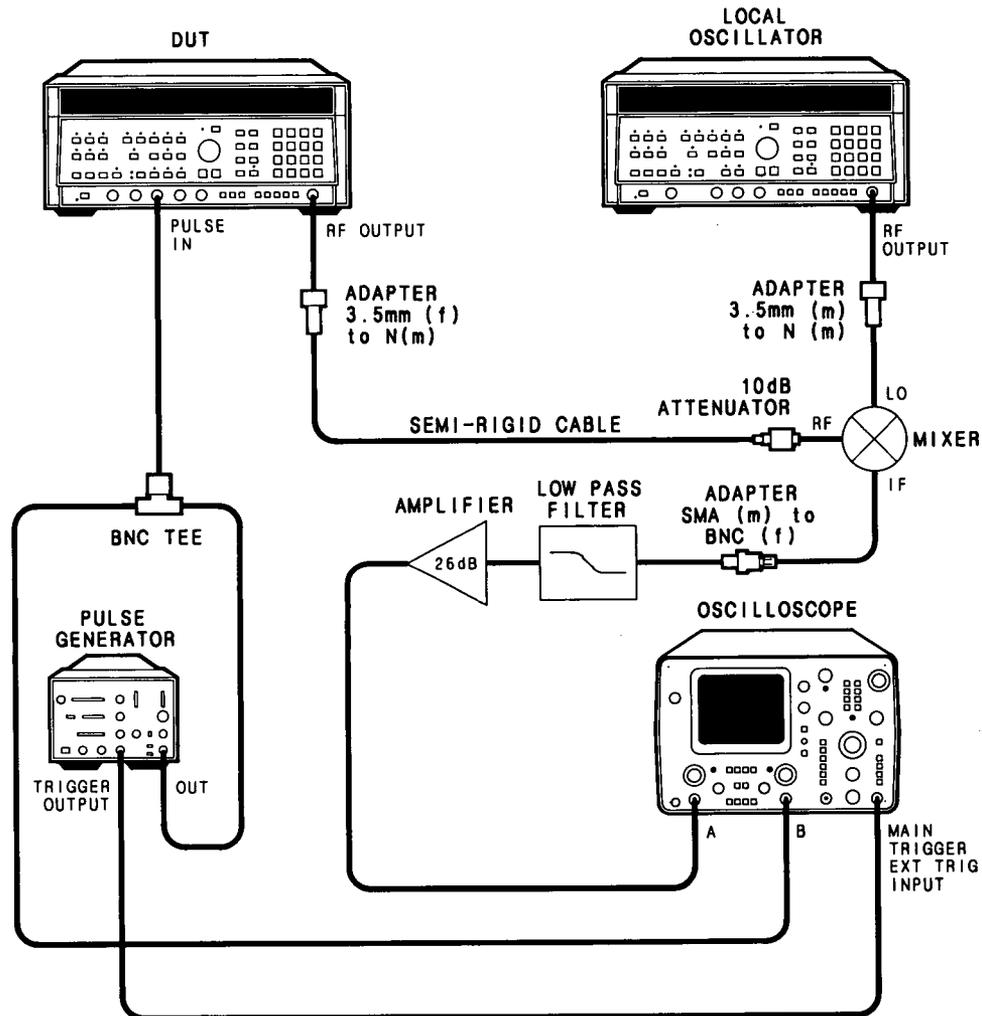

Figure 4-12. Pulse Modulation Rise and Fall Time Test Setup
1. Connect equipment as shown in Figure 4-12. Connect the mixer directly to the local oscillator RF output to obtain maximum LO drive to the mixer. Connect the BNC tee directly to the DUT's PULSE IN connector. Allow a one hour warm up time.